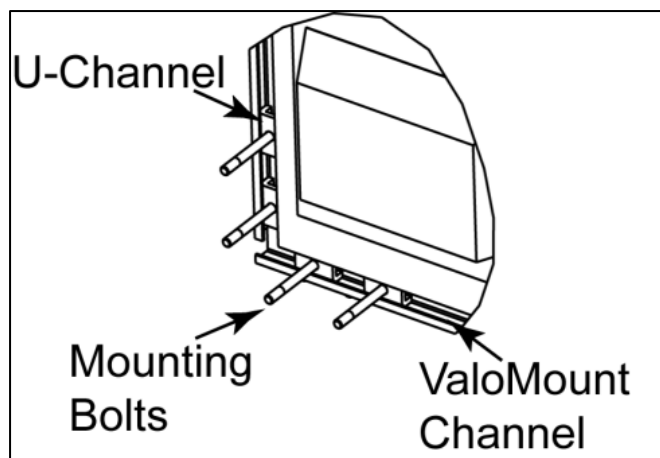

Figure 24: U-Channel in ValoMount Channel
3. Slide two of the mounting U-channels and bolts into the horizontal Valo®Mount channel on the display back. Refer to **Figure 24**.